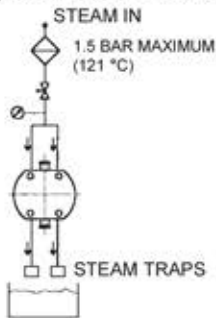

Fig 3
- see Fig 3 for suggested steam connections: